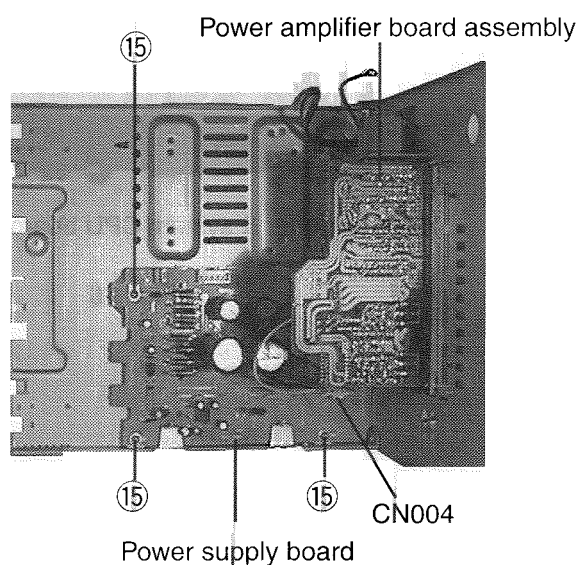

Fig. 14
9. Disconnect the connector wire connected to connector CN004 on the power supply board. (See Fig. 14)
10. Remove the three screws ⑮ fastening the power supply board. (See Fig. 14)